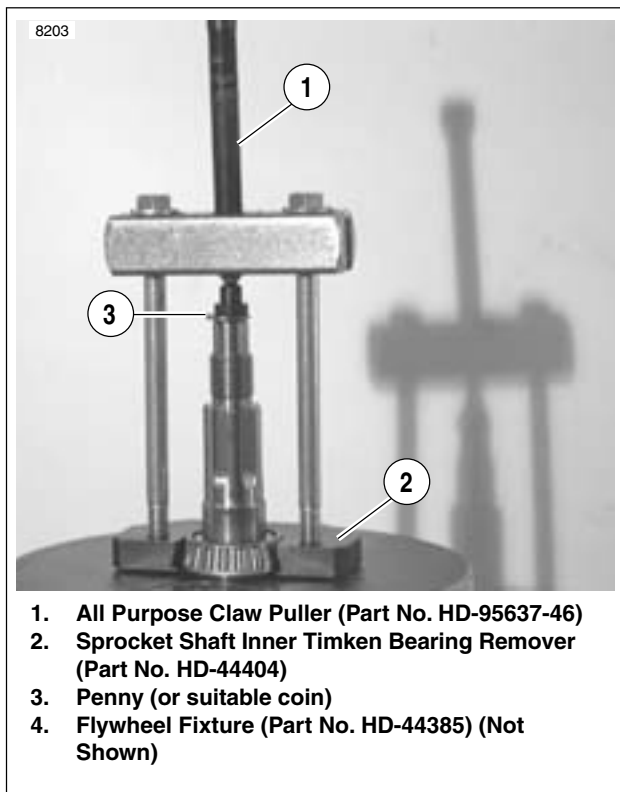

Figure 3-79. Removing Sprocket Shaft Inner Timken Bearing (Typical)
- See Figure 3-79. Place flywheel assembly in FLYWHEEL FIXTURE (Part No. HD-44385). Pull sprocket shaft bearing with SPROCKET SHAFT INNER TIMKIN BEARING REMOVER (Part No. HD-44404) and ALL PURPOSE CLAW PULLER (Part No. HD-95635-46) using bolts in place of jaws. Insert a penny (or suitable coin) between shaft and claw puller to avoid damaging shaft.